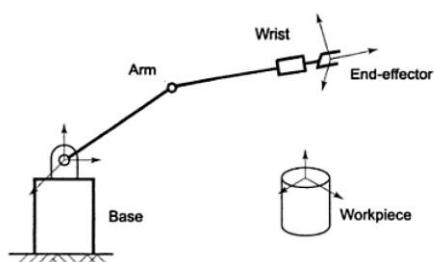

**Fig. 1.8 Joint types and their symbols**
**Revolute joint:** It is sketched in Fig. 1.8(a). The two links are jointed by a pin (pivot) about the axis of which the links can rotate with respect to each other.
**Prismatic joint:** It is sketched in Fig. 1.8(b). The two links are so jointed that these can slide (linearly move) with respect to each other. Screw and nut (slow linear motion of the nut), rack and pinon are ways to implement prismatic joints.
Other types of possible joints used are: planar (one surface sliding over another surface); cylindrical (one link rotates about the other at  $90^\circ$  angle, Fig. 1.8(c)); and spherical (one link can move with respect to the other in three dimensions). Yet another variant of rotary joint is the ‘twist’ joint, where two links remain aligned along a straight line but one turns (twists) about the other around the link axis, Fig. 1.8(d).